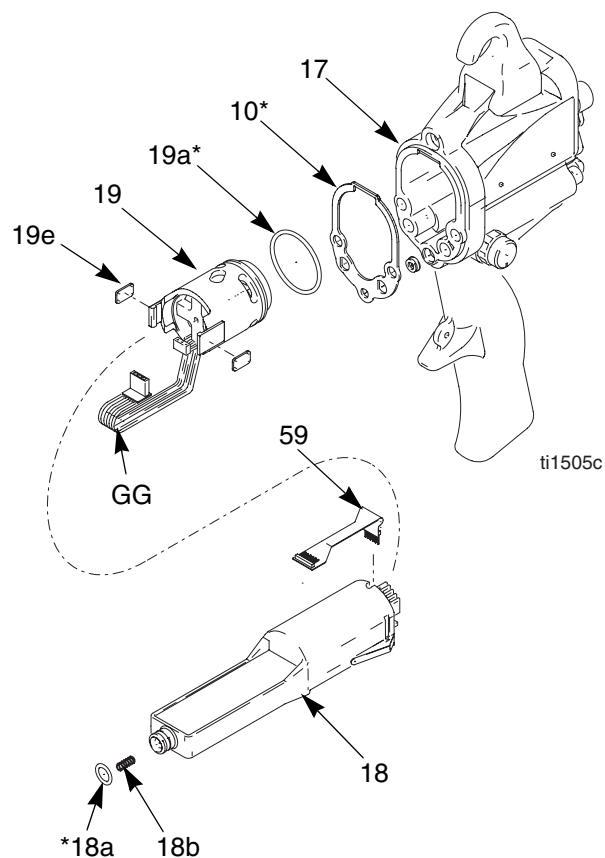

Fig. 17. Power Supply
- Grasp the power supply (18) with your hand. With a gentle side to side motion, free the power supply/alternator assembly from the gun handle (17), then carefully pull it straight out. *On Smart Models only*, disconnect the flexible circuit (59) from the socket at the top of the handle (17). See FIG. 17..
- Disconnect the 3-wire connector (GG) from the power supply. Slide the alternator up and off the power supply. Inspect the power supply and alternator for damage. *On Smart Models only*, disconnect the 6-pin flexible circuit (59) from the power supply.